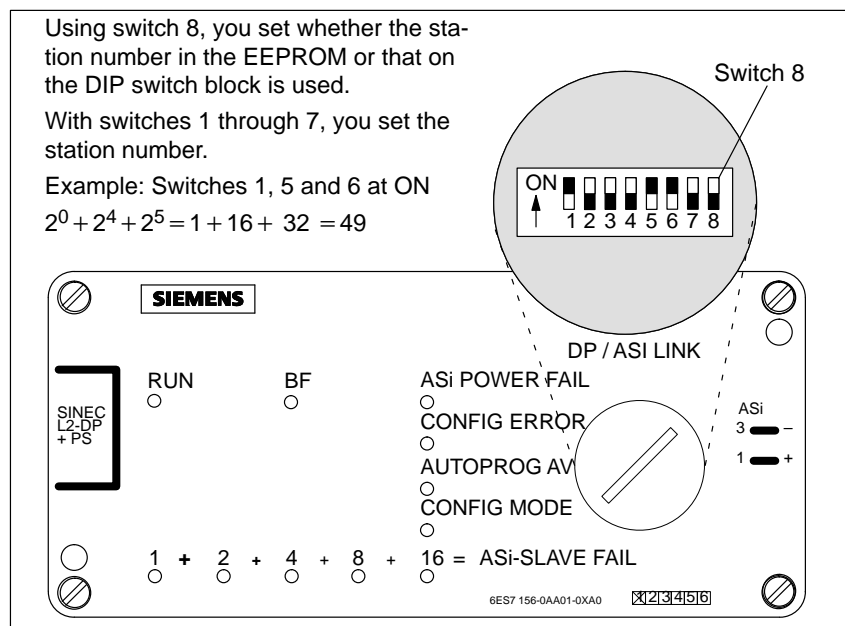

Figure 4-3 Location of DIP switch block
**Selecting station numbers** With switch 8 of the DIP switch block (refer to Fig. 4-3), you define whether the station number in the EEPROM or the station number on the DIP switch block is valid.
**DIP switch block** You will find the DIP switch block under the screw-type cover on top of the DP/ASi link (refer to Fig. 4-3). Open the screw-type cover using a suitable coin.